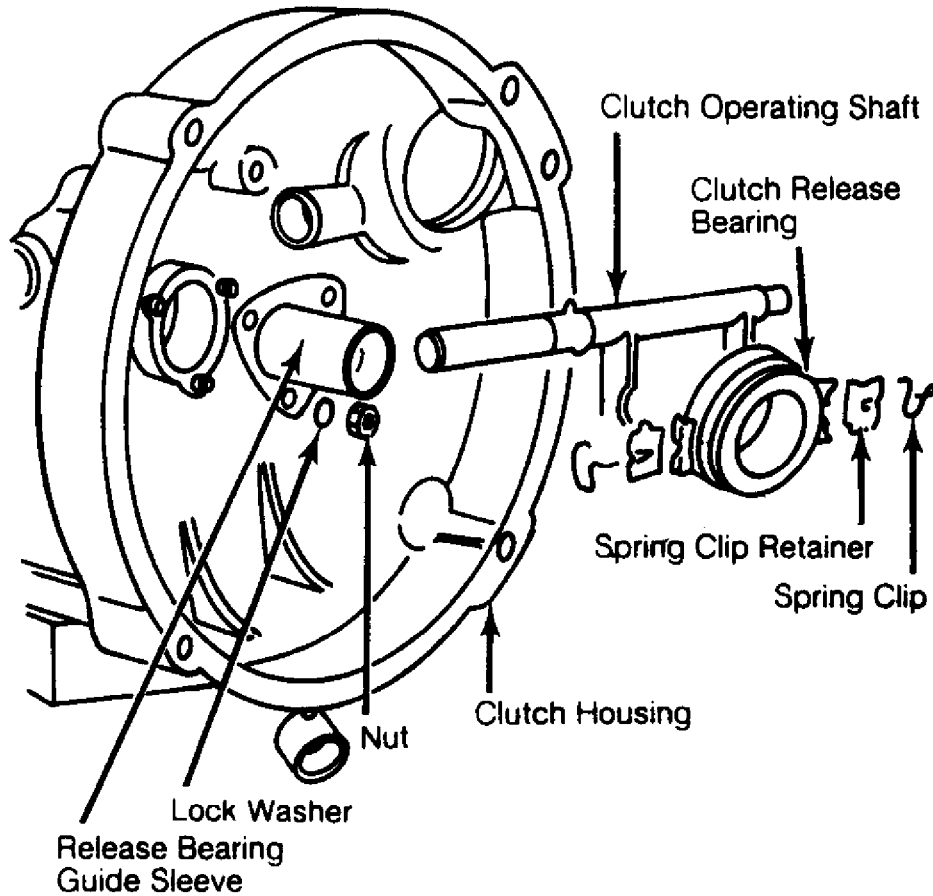

Fig. 1: Removing Clutch Release Bearing
6) Pry off spring clip retainers from clutch release bearing and disengage spring clips. Remove clutch release bearing. See Fig. 1.